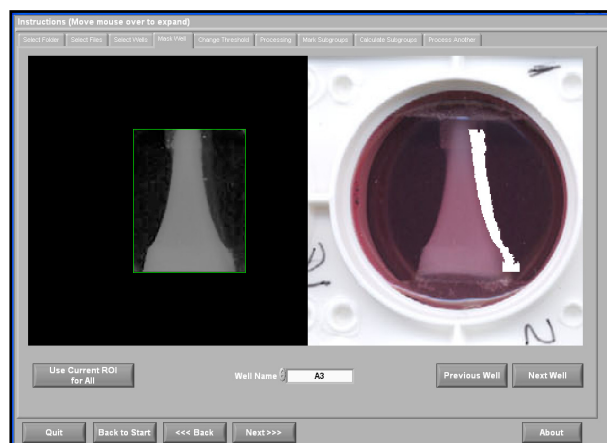

Figure 23. Selecting the Region of Interest (ROI).
1. The ROI rectangle may be relocated and resized to locate the best fit for the ROI (Fig. 23). For BATs, the ROI is generally located from the end of one Tissue Train® nylon anchor to beginning of the opposite nylon anchor in respect to height and a width slightly wider than the widest measurement of cross section of the BAT.